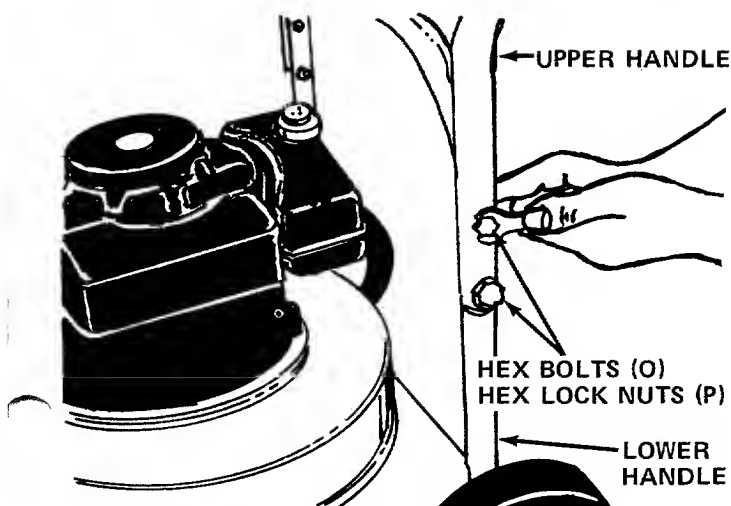

FIGURE 6
8. Place the upper handle (C) in position over lower handle. Fasten with four hex bolts (O) and hex lock nuts (P) provided. See figure 6. Two 7/16" wrenches are required.